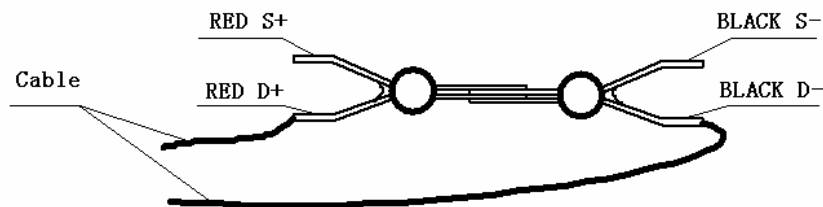

Figure 2-1 Short the test clips
2. Short the test clips as shown in Figure 2-1, make sure that "S+" and "S-" are connected directly and "D+" and "D-" are also connected directly.